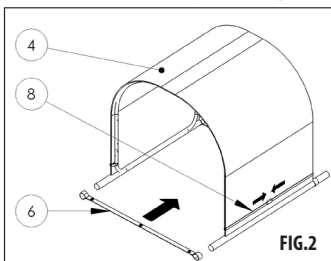
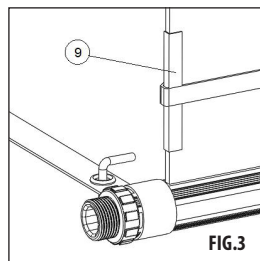

FIG.2
FIG.3
- 2) Bend the panel over the supporting frame and put the guy straps (6) on the tube ends (**FIG. 2**). The panel will be fixed with the straps with buckles (8) installed in the frame to the preceding paragraph. In the point, where the strap is led over the panel edge, use the protecting piece (9) to protect the panel from damage (**FIG. 3**).